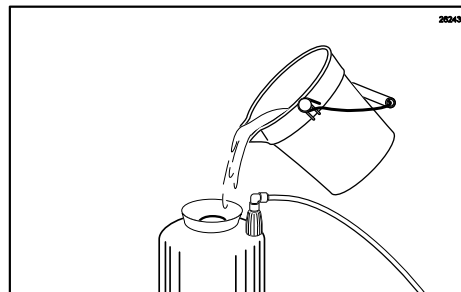

Figure 84
- Fill the Sanitizer Tank with approved sanitizer solution (See Figure 84.)